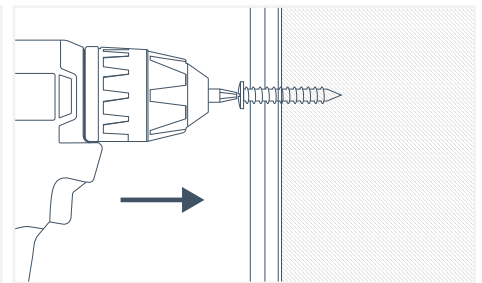

Fig. 6
- Screws must be installed straight and level to allow for movement (Fig. 6)